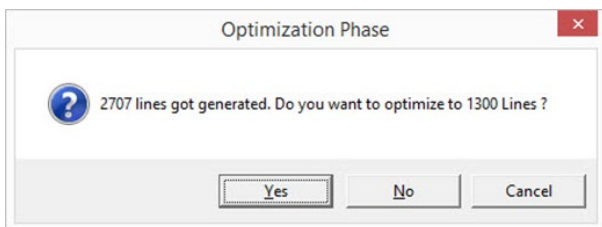
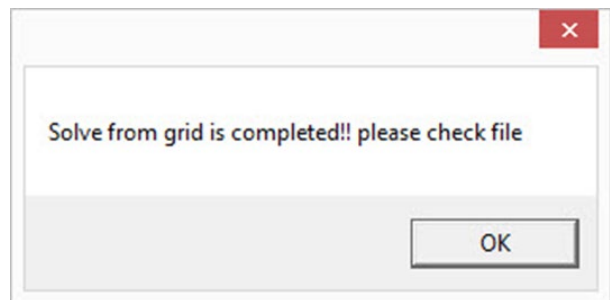

Figure 32-4
Figure 33-3
8. Once Solve has completed a pop-up window will appear and either say “Polygons have been solved Successfully!” (See Figure 33-3) or “lines got generated. Do you want to optimize to 1300 Lines” (See Figure 32-4).
If you receive the second pop-up “lines got generated. Do you want to optimize to 1300 Lines” (See Figure 32-4) you will need to select Yes to try and optimize the output more.
11. Keep selecting optimize until you get the pop-up window stating "Solve from grid is completed!! Please check file". See Figure 33-3.